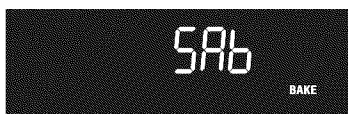

Fig. 1
6. Press and hold both **Cook Time** and **Delay Start** key pads simultaneously for about 3 seconds to set the Sabbath feature. The control will provide an acceptance tone and **SAb** (See Fig. 1) will appear in the display indicating the oven is properly set for the Sabbath feature.